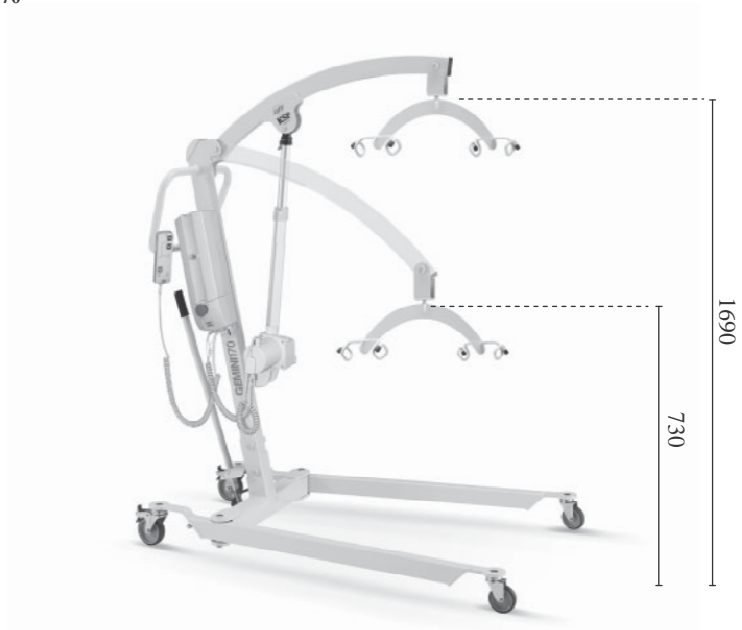

Fig. 13
- Art. N 9602 Sling stretcher max. load Kg. 130 (Figure 13).